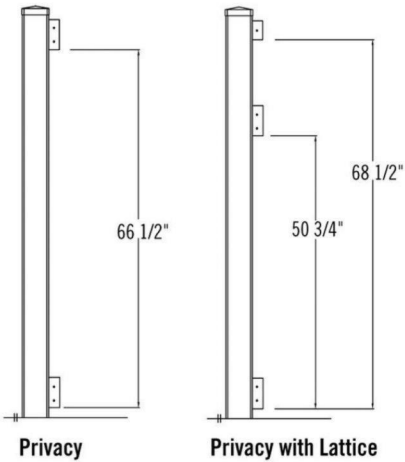

Fig. 11 Post Bracket Locations for Stair Stepping
- b) Install brackets on (Fig. 11). Pre-drill posts with 1/8" drill bit, using bracket as your guide.